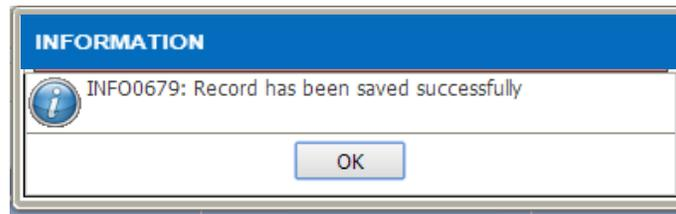

Figure 3.1.2-6 Save Record Alert Message
- Click on the  button in Figure 3.1.2-6